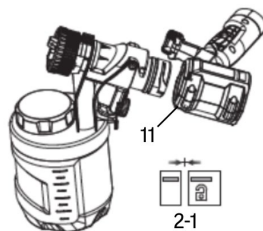

Fig. 2
3. Insert the spray gun handle (# 11) (Fig. 2).